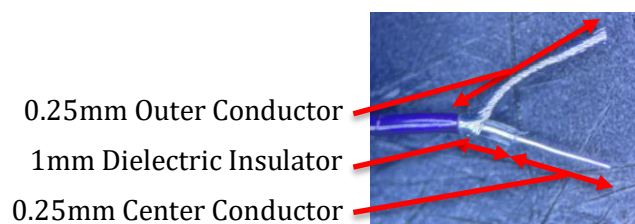

Figure 1: Example of micro-coaxial cable
- 7.1.4 Strip the dielectric insulator using blade breaker (or equivalent stripping tool) as illustrated in Figure 1, leaving approximately 1mm of dielectric insulation on the prepped wire.
- 7.1.6 Cut the outer and center conductors to final length per Figure 1.